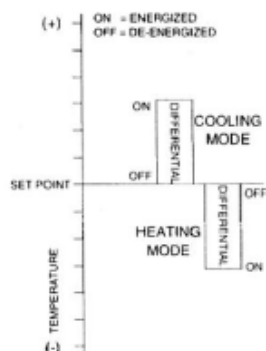

Figure 1: Setpoint and Differential Settings. Diagram indicates relay on and off points in either the heating or cooling modes.
The temperature setpoint refers to the temperature at which the normally open (NO) contacts of the output relay will open. Determine the load (s) to be controlled and the operating mode required, cooling or heating. Refer to Figure 1 for a visual representation.